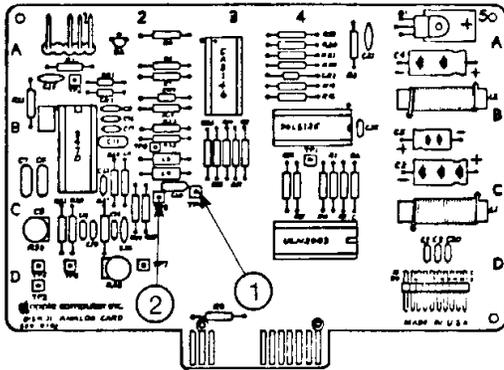

FIGURE 9
11. Connect the ground clip to TP4 and the scope probe to TP9 on the Disk Analog Card. (Figure 9, #'s 1 and 2).